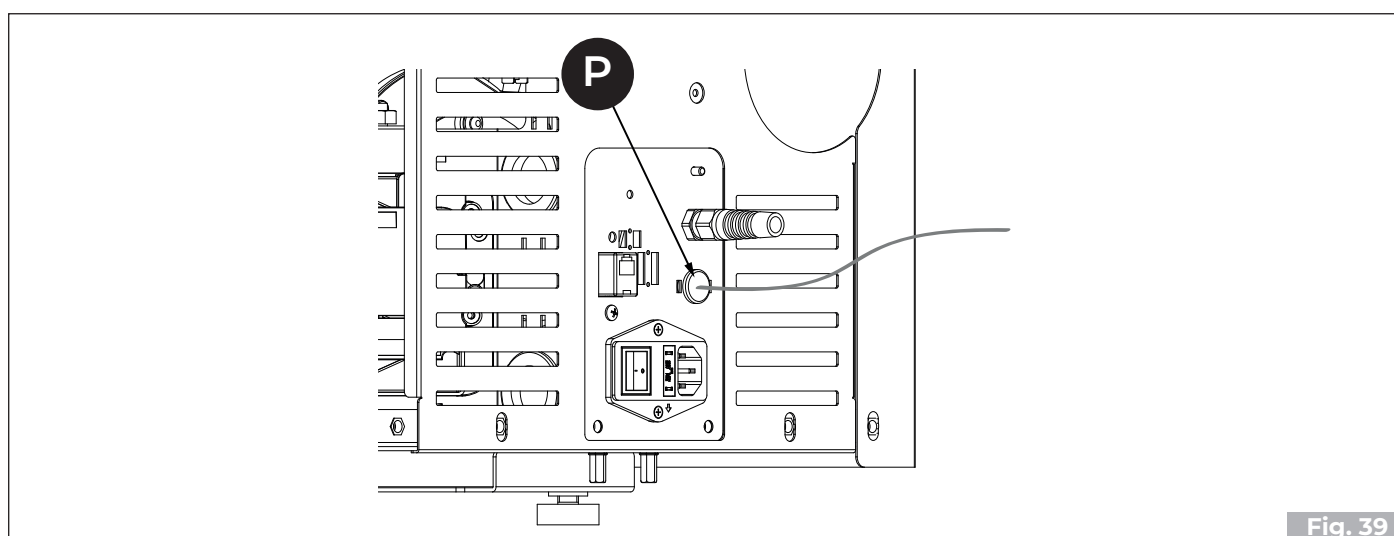

Fig. 39
Provide for the passage of the room probe through the cable gland (P) "**Fig. 39**"